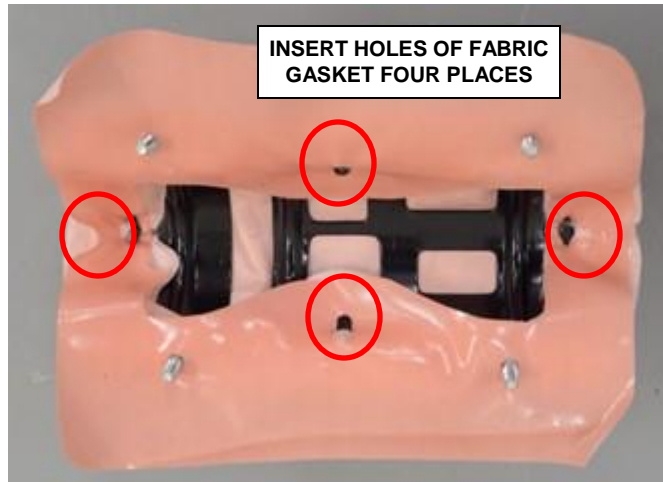

Figure 54 – Fabric Gasket
g. With the help of a trim tool insert the holes of fabric gasket, four places (Figure 54).